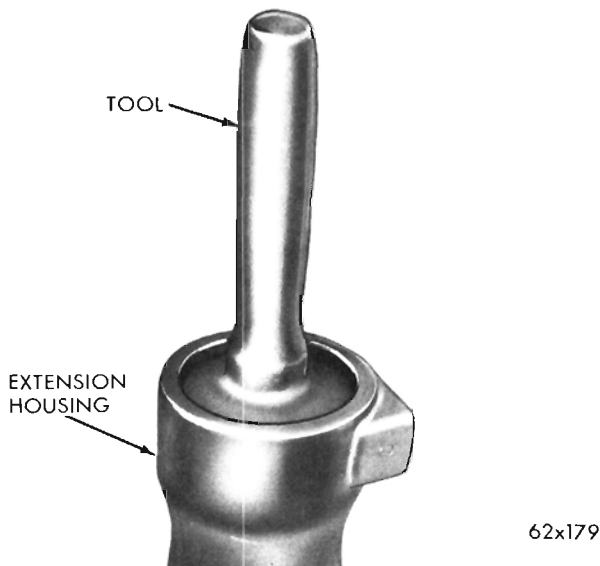

Fig. 50—Installing Output Shaft Bearing
(3) Place a new bearing in the opening of the extension housing. Using Tool C-3204, drive the bearing into housing (Fig. 50). Install the bearing retaining snap ring.